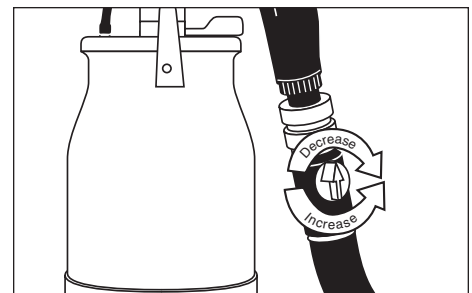

Figure 11 - Adjusting Air Flow
- For fine pattern adjustment, turn air flow control knob clockwise to decrease and counterclockwise to increase air flow (See Figure 11).